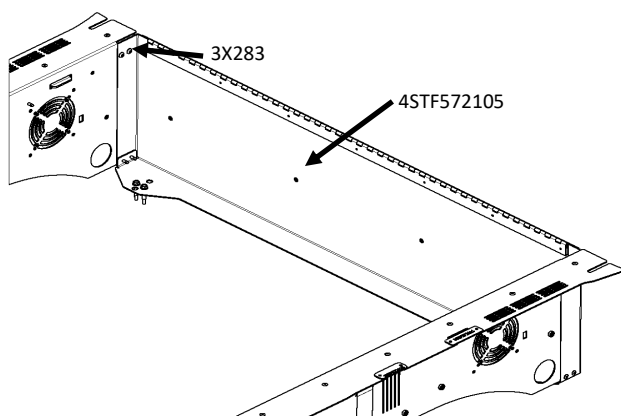

Figure 4a
1. Locate Front Panel Assembly [4STF572105], (4) [3X283] 1/4-20x1 Button Head Socket Cap Screws, (4) [3X47] #14 x 1-1/2" Self Drilling Hex Head Screws, and (2) OEM M10 bolts that were removed at the start.
2. Mount Front Panel Assembly to Driver Side Panel Assy with Button Head Socket Cap Screws using 1/4" hex drive as shown in Figure 4a. Repeat for attaching to Passenger Side Panel Assy.